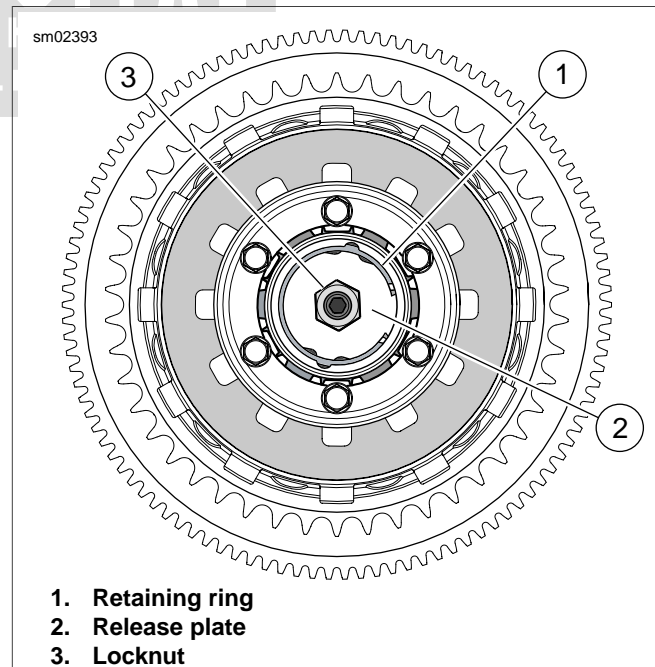

Figure 5-5. Clutch
4. See Figure 5-5. Loosen locknut (3).
5. Remove retaining ring (1) and release plate (2).